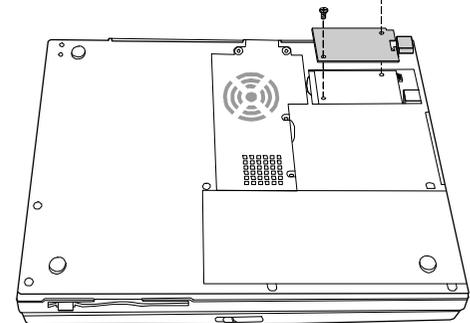

Figure 5-15. Remove two screws and lift up the metal shield.
2. Remove two screws and lift up the metal shield. (Refer to Figure 5-15)